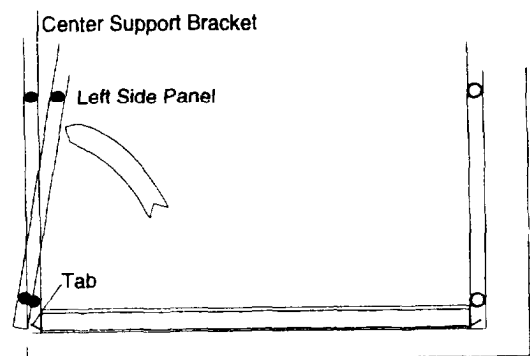

Figure 32: Aligning Left Side Panel
8. Tilt the left side panel towards the right as shown in Figure 32 and position the side panel so that the tab from the lower filter bracket can be inserted into the slot in the side panel.